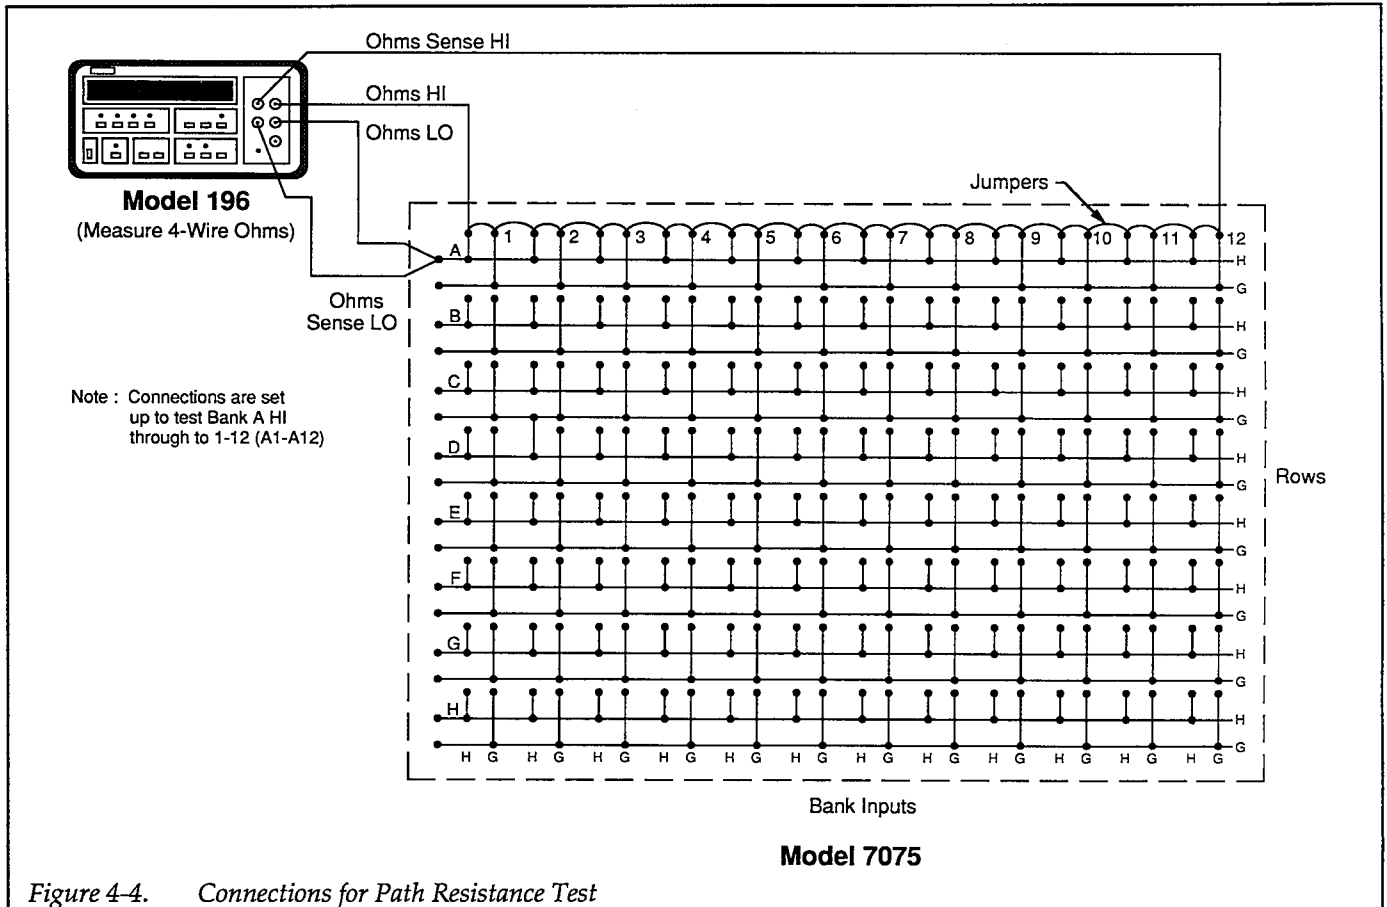

Figure 4-4. Connections for Path Resistance Test
Refer to Figure 4-4 for the following procedure.
4. Connect all terminals of the Bank A multiplexer inputs together to form one common terminal, as shown in Figure 4-4.
7. Connect OHMS HI and OHMS SENSE HI of the Model 196 to the common terminal (jumper on the BANK A receptacle). It is recommended that the physical connections be made at inputs 1 and 12 of Row A, as shown in Figure 4-4.
8. Connect OHMS LO and OHMS SENSE LO to the HI (H) terminal of Input 1, on the BANK A receptacle.
11. Using the basic procedure of steps 9 and 10, check the resistance of Row A HI (H) terminal paths for Inputs 3 through 12 of Row A.
12. Move the OHMS LO and OHMS SENSE LO test leads to the Guard (G) terminal of Row A, Input 1.
13. Repeat steps 9 through 11 to check the Guard (G) terminal paths of Row A.